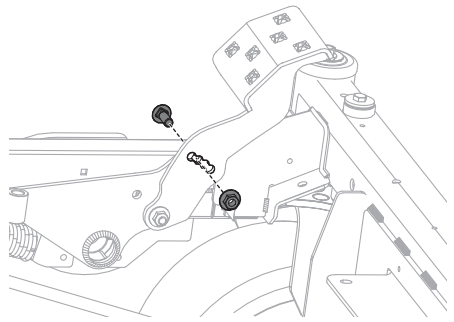

Figure 36
2. Remove the carriage bolt and hex nut near the center of the pedal assembly (Figure 36).
4. Reinstall the hardware previously removed and torque the hex nut to 28-35 ft-lbs (38-47 N-m) (Figure 36).